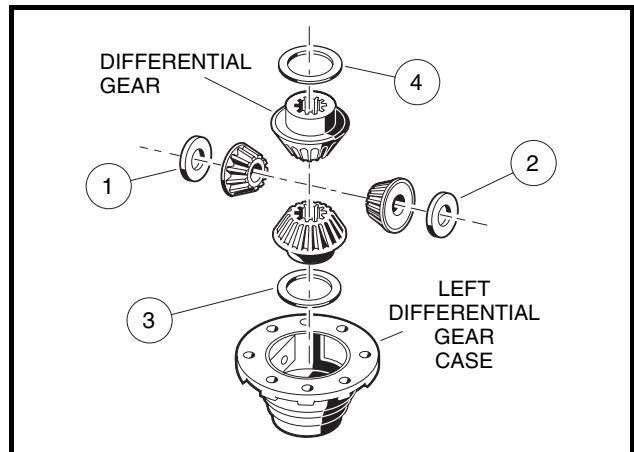

Figure 23-17 Left Differential
- 8.5. Remove the idler gears and thrust plates (1 and 2) (**Figure 23-17, Page 23-9**).